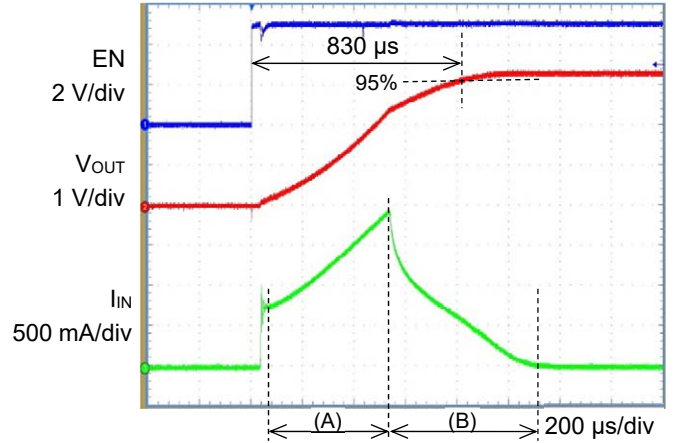
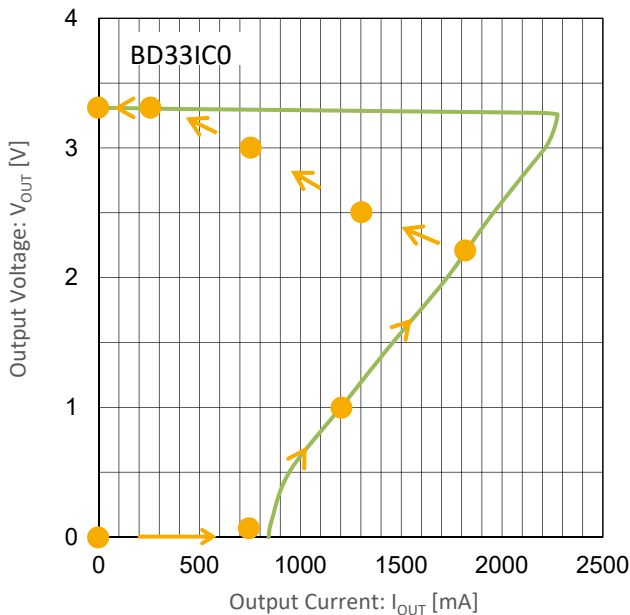

Figure 20. Startup waveforms
Figure 24. Characteristic of over current protection and the track of inrush current
Figure 20 shows the startup waveforms when the capacitance of the output capacitor is increased to 330 μF . Compared with the case of 220 μF , the output current is further increased since it requires more electric charge to charge the capacitor. As a result, the over current protection circuit is activated and the output voltage is increased while the output current is regulated (section (A)). As the output voltage approaches the specified value, it is still within the soft start rise time (800 μs). Therefore, the soft start circuit continues to operate and the output current starts to decrease (section (B)).
Under the conditions of Figure 20, overlaying the characteristic of the over current protection and the track of the inrush current gives Figure 24. In the section (A) of Figure 20, the output voltage increases along the "7" curve while the current limit is applied. In the section (B), the current limit is lifted and it enters the final stage of the soft start operation.